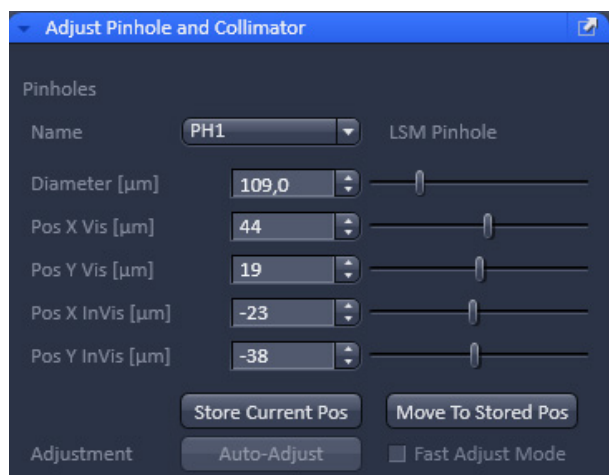

Fig. 557 Manual pinhole adjustment
- Click the LSM **Continuous** action button to start a continuous scan. Optimize the pinhole position in X, Y and Z (Z only for PH1) relative to the PMT using the **Position X [µm]**, **Position Y [µm]** and **Position Z [µm]** sliders to maximum image brightness (see Fig. 557).